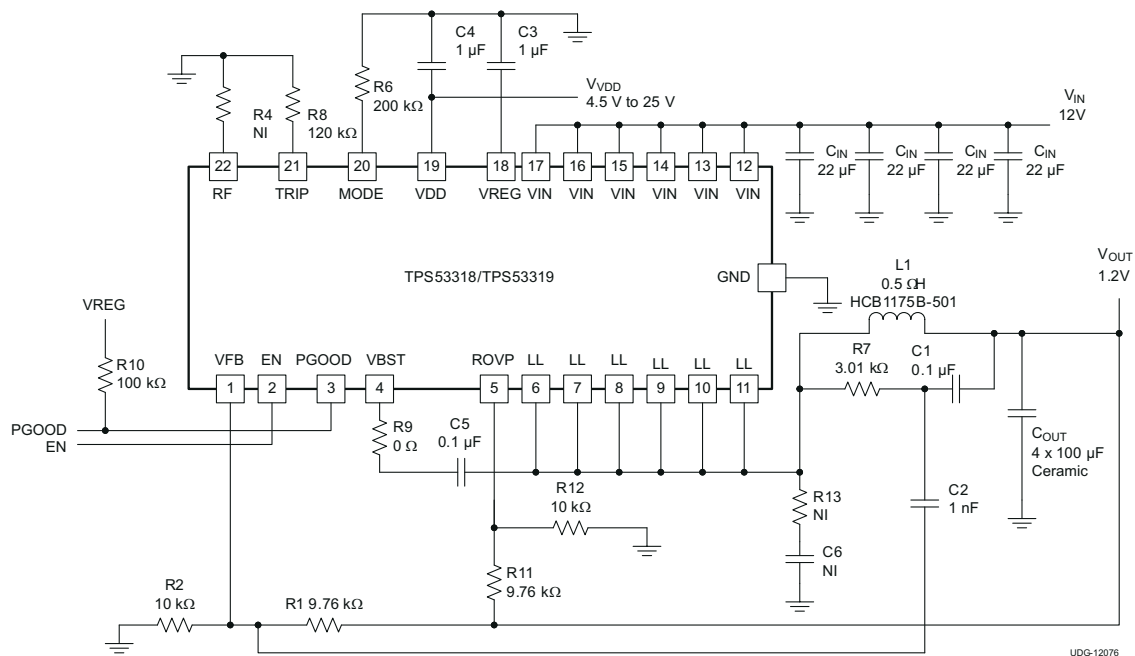

Figure 9-12. Typical Application Circuit, Redundant OVP Enabled
The redundant overvoltage level is programmed according to the output voltage setting, it is controlled by resistors R11 and R12 as shown in Figure 9-12. Connect resistor R11 between the ROVP pin and the output, and connect resistor R12 between the ROVP pin and GND. This design recommends that the value of resistor R11 match the value of resistor R1 (or slightly higher), and that the value of resistor R2 match the value of resistor R12.
- Connect the ripple injection  $V_{OUT}$  signal ( $V_{OUT}$  side of the C1 capacitor in Figure 9-12) from the terminal of ceramic output capacitor. The AC coupling capacitor (C2 in Figure 9-12) should be placed near the device, and R7 and C1 can be placed near the power stage.